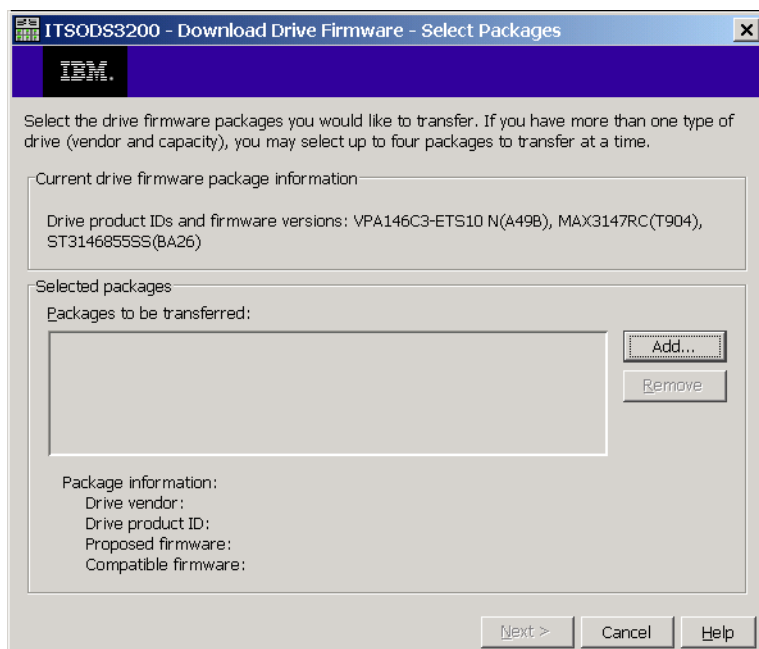

Figure 14-27 Download Driver Firmware
1. Click **Download Drive Firmware** in the Download Firmware (Figure 14-12 on page 309) menu to load the new drive firmware. You can see the firmware levels of installed disks in the upper pane of the window, as shown in Figure 14-27. Click **Add** to select the appropriate drive firmware image file.
3. Click **OK** to select the compatible firmware file only and return to the Download Firmware Window (Figure 14-27 on page 319).